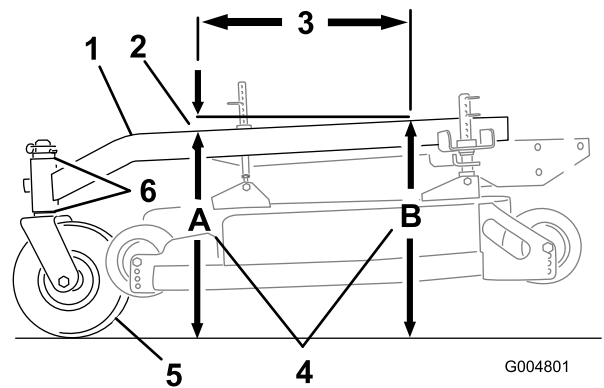

Figure 68
2. Measure carrier frame height at location **A** (Figure 68).
3. Measure carrier frame height at location **B** (Figure 68).
4. The height at location **A** must be an 1/8-3/8 inch (3 mm -10 mm) lower than location **B** (Figure 68).
5. If the carrier frame is not correct, move caster spacers to make it an 1/8-3/8 inch (3 -10 mm) pitch (Figure 68). Move spacers from top or bottom to make the correct pitch.
The carrier frame must have a pitch between 1/8 inch (3 mm) to 3/8 inch (9 mm) over the length of 24 inches (61 cm) on the carrier frame (Figure 68).
1. Measure out 24 inches (61 cm) on the carrier frame (Figure 68).